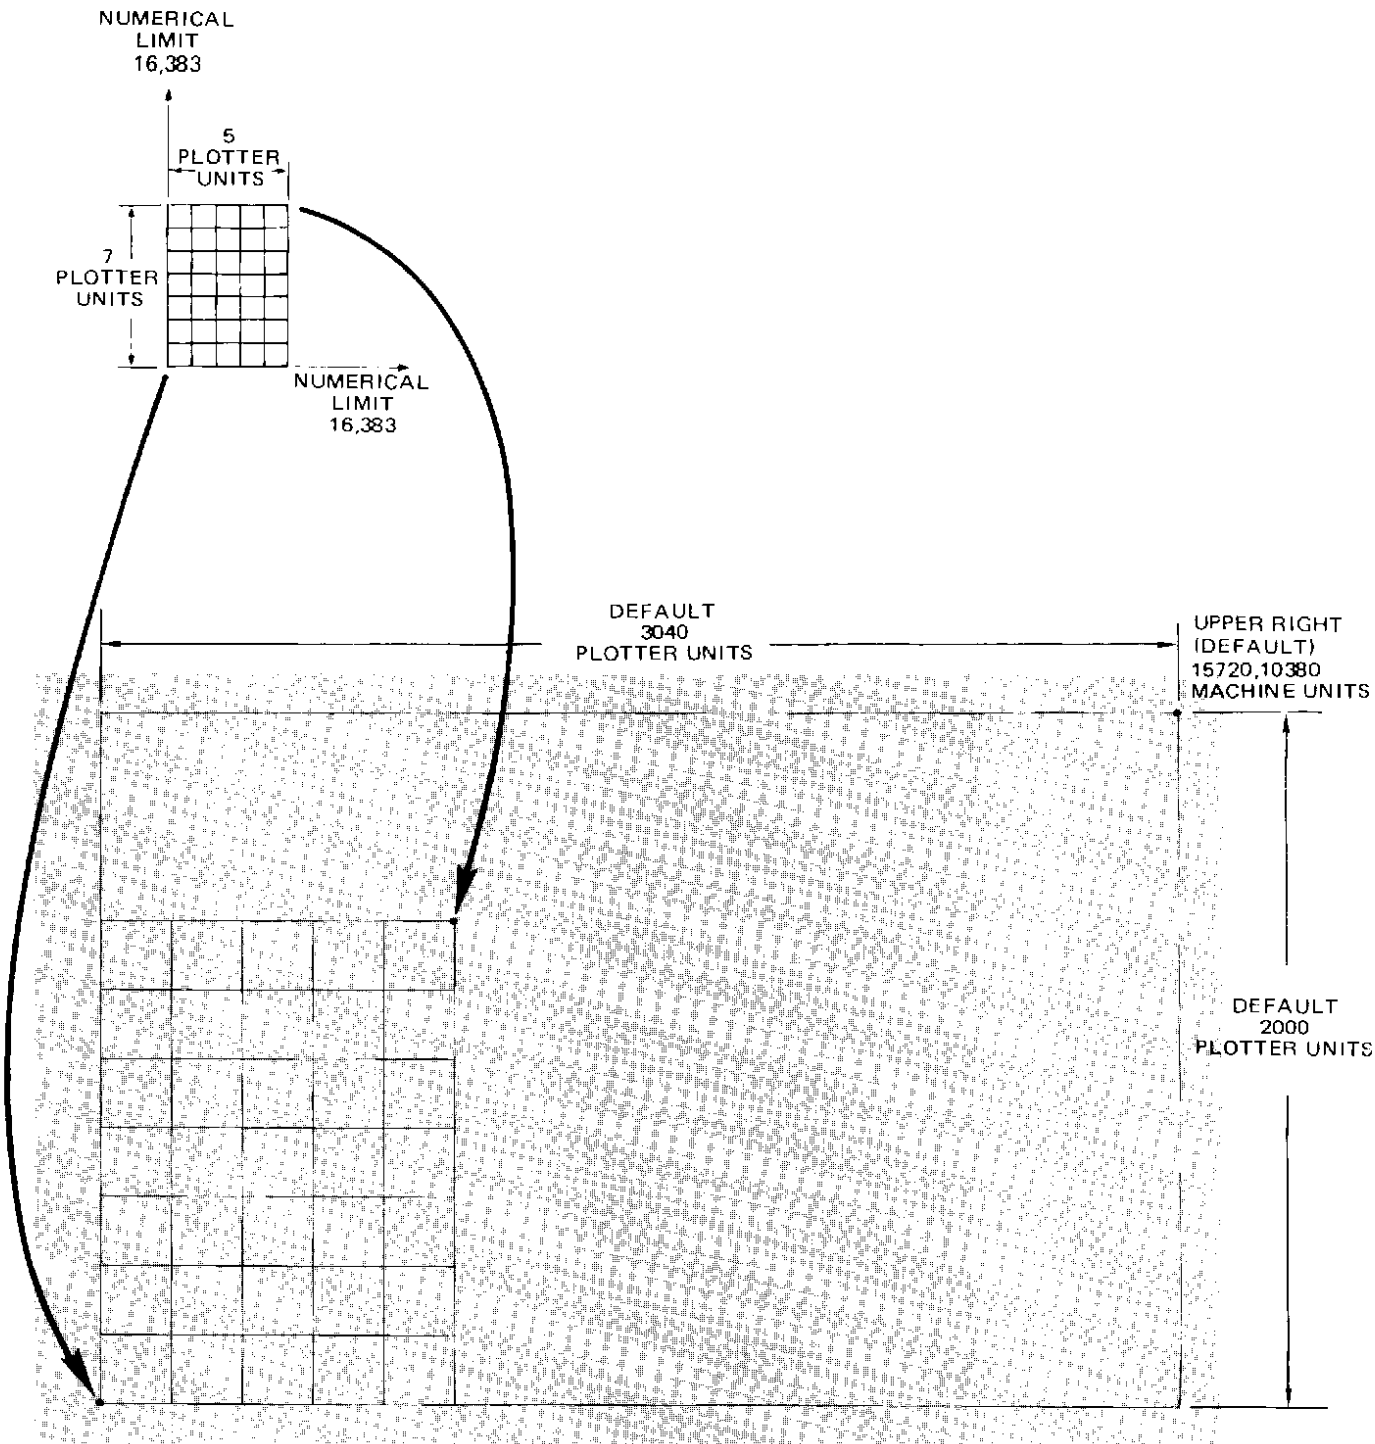

Figure 4-4. Setting a Square Grid
**Result** Establishes a 5 x 7 grid within the defined graphic limits shown in Figure 4-4. Note that each plotter unit has equal X and Y dimensions. Graphic limits can be verified by use of the  and  controls. Integer coordinates within the grid can be verified by pressing, then releasing, the arrow pushbuttons while the pen is within the graphic limits.